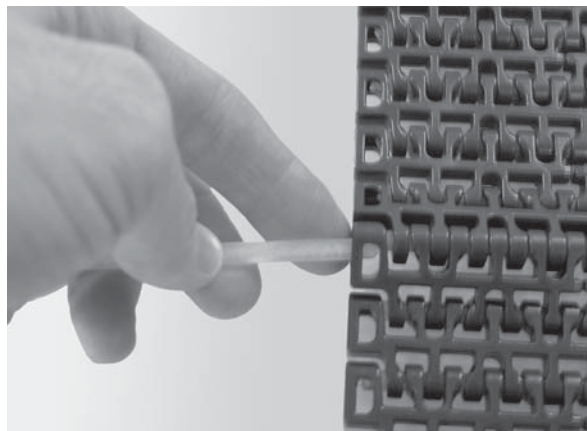

Figure 48
2. Use a second belt rod of the same size to push on the opposite end of the belt rod. (**Figure 48**).